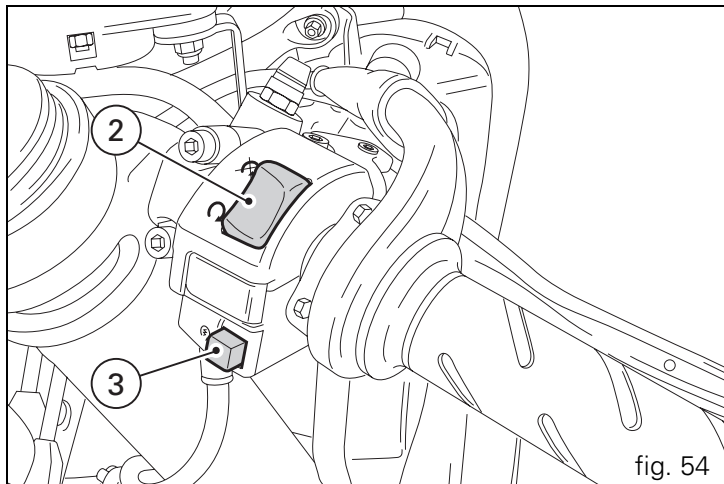

fig. 54
2) Check that the stop switch (2, fig. 54) is positioned to  (RUN), then press the starter button (3, fig. 54).